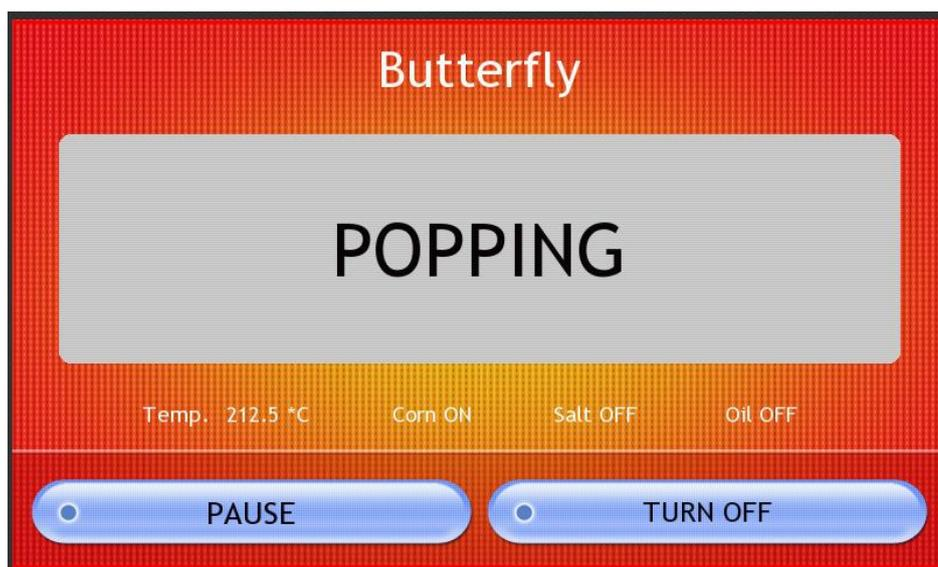

Fig. 7. Cooking mode
8. If you need to briefly (for up to 30 minutes) stop the machine, press button <<PAUSE>> (fig. 7). The machine will stop popcorn production, but it will maintain the temperature and air circulation inside the machine.